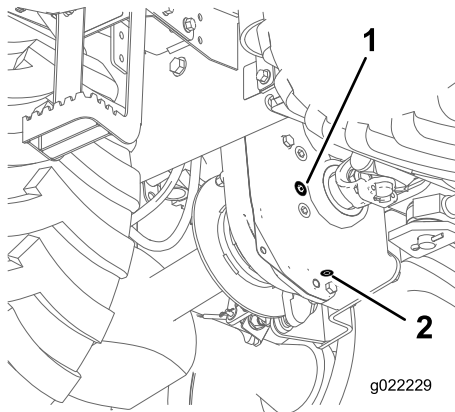

Figure 34
2. Clean the area around the fill plug with a cleaning solvent (Figure 34).